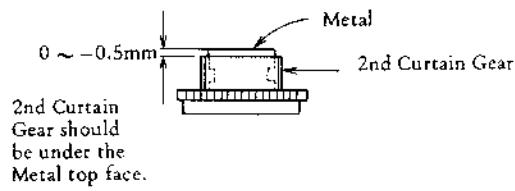

Fig. 13
- 2) The difference between the top of the 2nd Curtain Gear (19-9863) and the top of the bearing should be:  $\pm 0.0 \sim -0.05\text{mm}$  See Fig. 13.